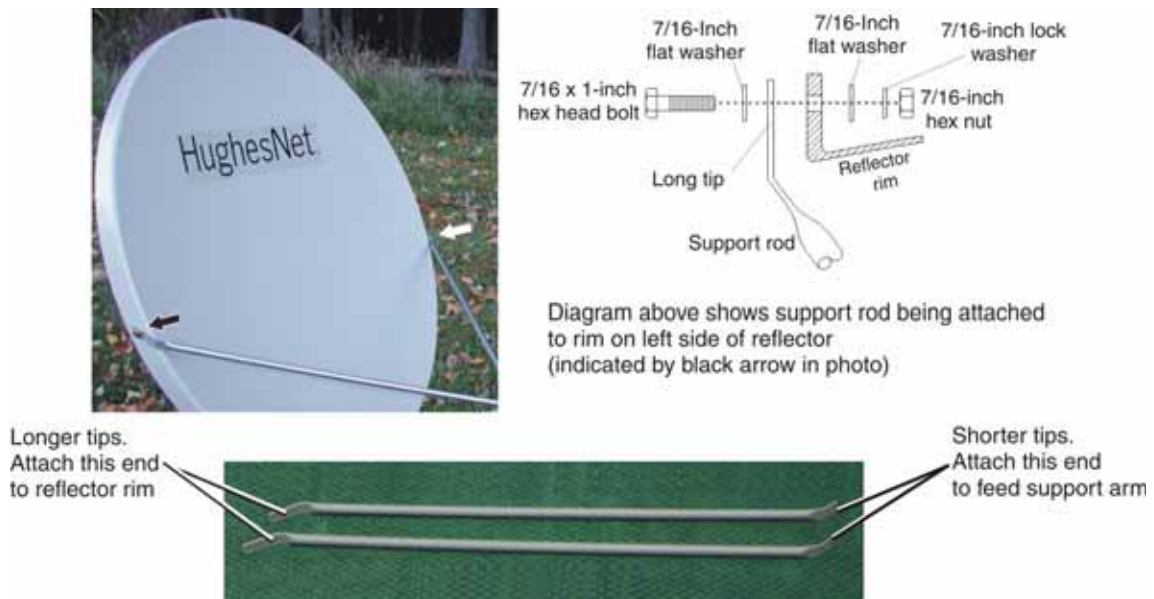

Figure 16: Attaching the support rods to the reflector (right rod shown)
4. Attach the two support rods to the reflector rim on opposite sides, using one 7/16 x 1-inch hex head bolt for each rod, as shown in Figure 16. As shown in the figure, the two tips at the opposite ends of the support rods are not the same. Be sure to attach the longer-tipped ends to the reflector, as illustrated in Figure 16. Do *not* tighten.